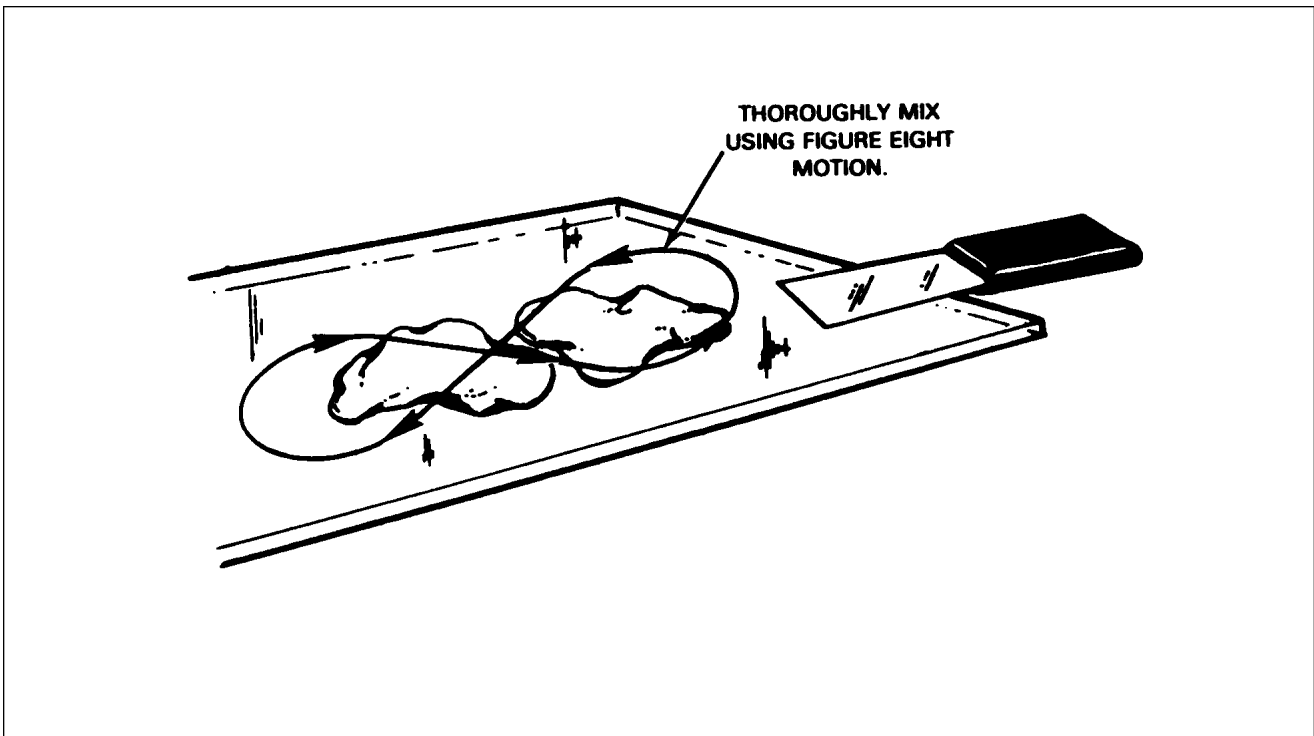

Figure 51-5. Mixing of Epoxy Patching Compound
- e. Mix patching compound in equal portions on a hard flat surface (use a figure eight motion). Clean damaged area with perchlorethylene or VM&P naphtha prior to applying compound (figure 51-5).